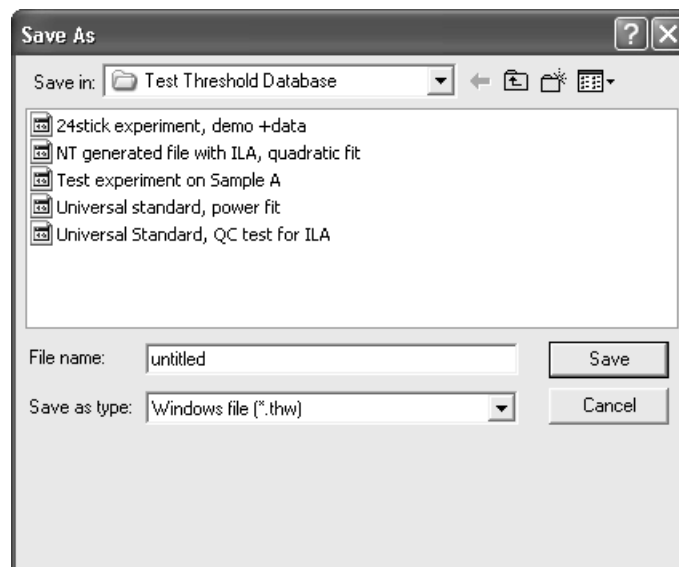

Figure 4-18: The Save As Dialog
- 2) The Save As dialog opens (Figure 4-18).